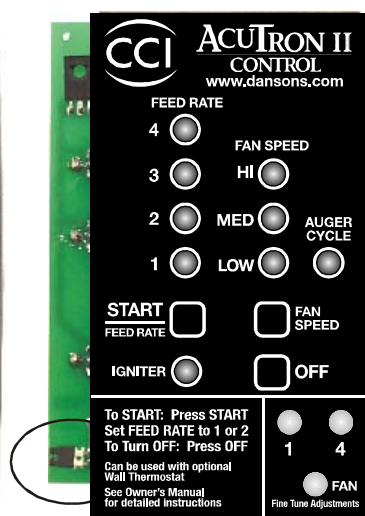

figure 32
8. Remove the black two prong jumper, (see figure 32), located on the front, left hand side, near the bottom corner and reconnect it to only one of the posts. (see figure 33).
**IMPORTANT: IF THE WALL THERMOSTAT PROVIDED IS NOT USED, THE JUMPER IS REQUIRED FOR THE STOVE TO OPERATE IN MANUAL MODE (SEE FIGURE 32).**